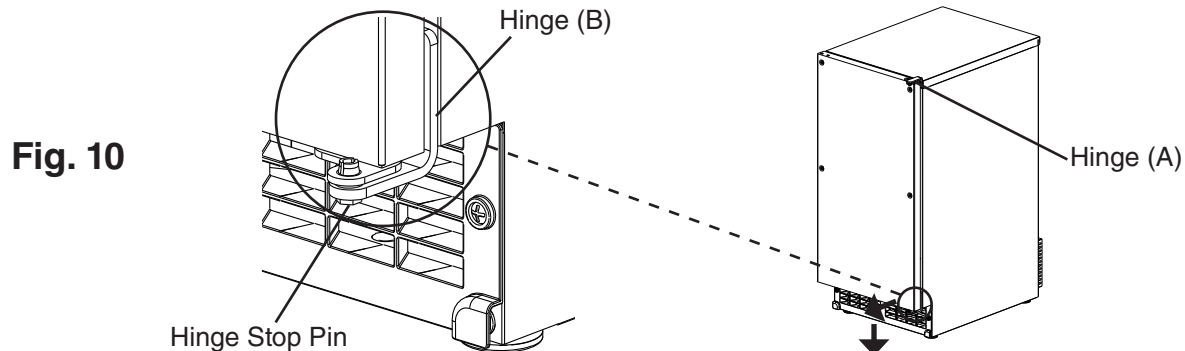

Fig. 10
- 5) While maintaining a hold on the door, remove the hinge stop pin from hinge (B). Pull out the bottom of the door slightly and gently remove the door from hinge (A). See Fig. 10. If you are leaving the door right-hinged, skip to step 7. If you would like to reverse the door hinges, proceed to step 6.